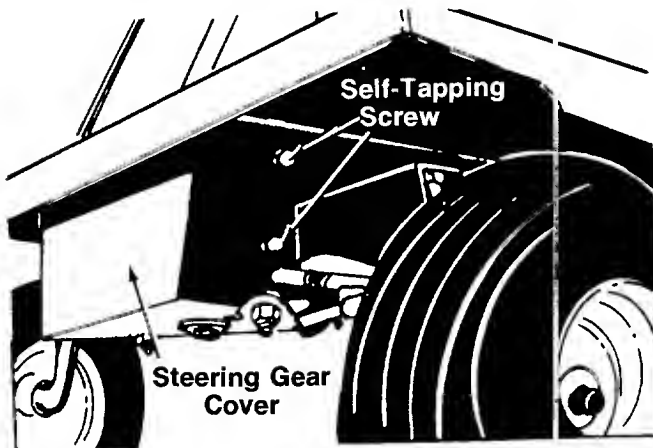
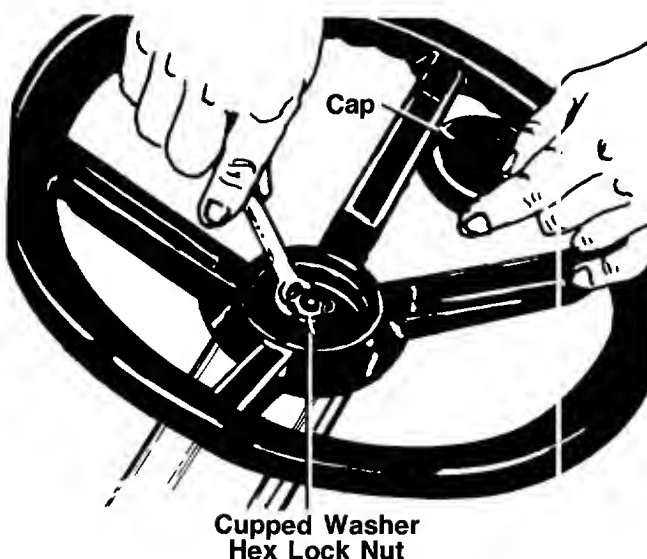

FIGURE 7.
FIGURE 8.
14. Install the **steering gear cover** (D) as shown in figure 7, to cover the underside of the steering mechanism. Secure with two **self-tapping screws** on each side of the cover. Do not completely tighten any of these screws until all four of them are positioned correctly.
16. Place **steering wheel** (C) in position desired. Make certain the steering wheel is seated over the end of the steering tube.
17. Place the **cupped washer** with the cupped side down over the **steering shaft**. Secure with 5/16" **hex lock nut**. See figure 8.